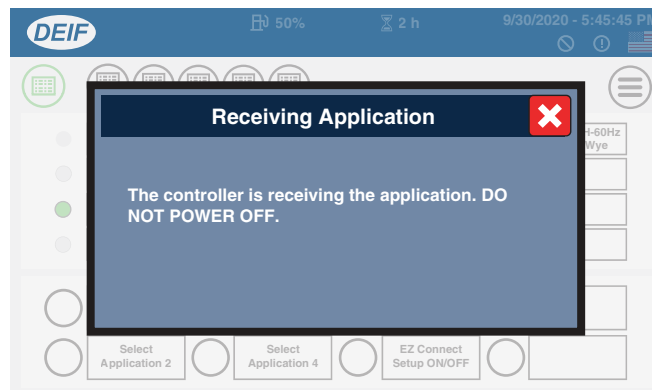

Figure 125. Receiving Application Screen
- Next, the **Receiving Application** screen will be displayed (Figure 125).
- Verify that the **Receiving Application** screen is displayed again (Figure 125).